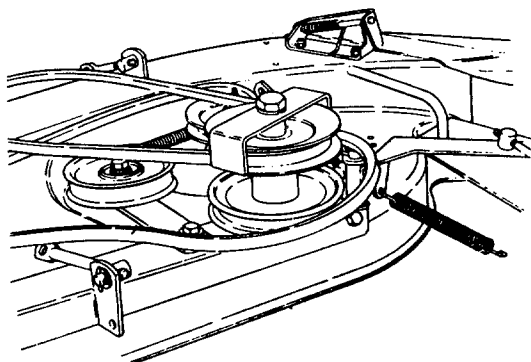

Figure 57
4. Refer to Figure 57 and remove the spindle drive belt from the double drive pulley and from the spindles.